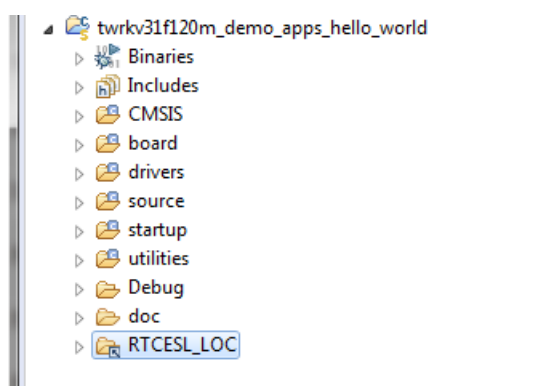

Figure 1-7. Projects libraries paths
5. Click Finish, and the library folder is linked in the project. See Figure 1-7.